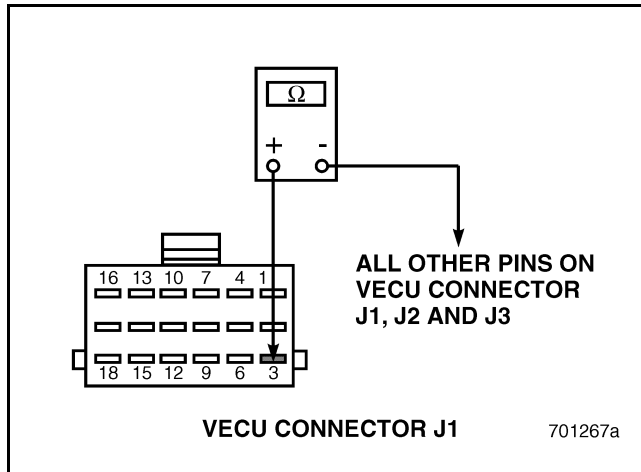

Figure 518
4. Check for continuity between VECU connector J1 pin 3 and all other pins on VECU connectors J1, J2 and J3 (see Figure 518).